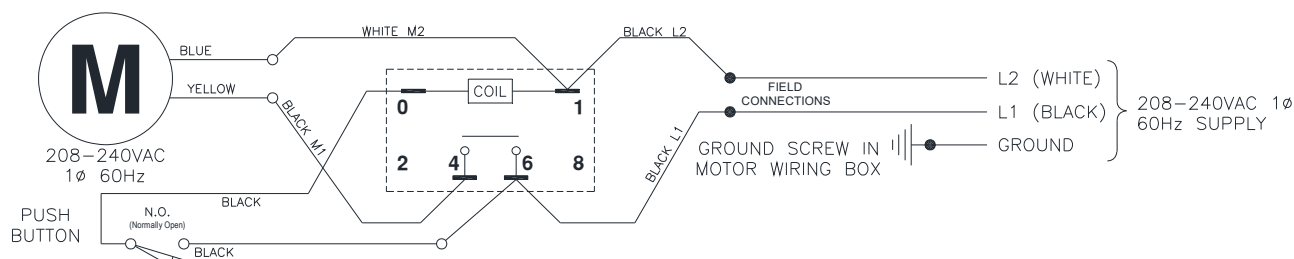

Fig 15 – Electrical Wiring Diagram
- 25) Have a certified electrician connect the power unit to a suitable electrical power source as shown in **Fig 15**.